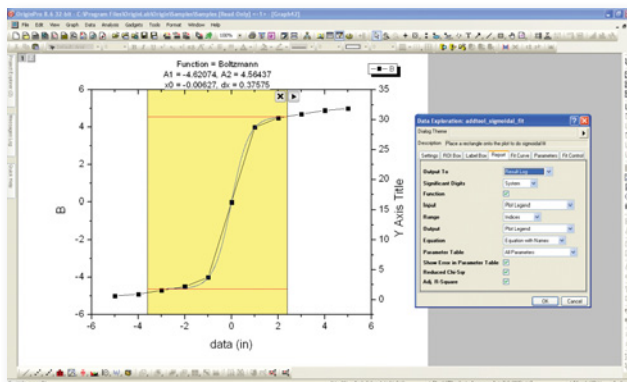

FIGURE 2: Region of interest in the Quick Sigmoidal Fit Gadget.
Gadgets in Origin are tools that perform quick analyses on regions of interest (ROI) within a graph, as shown by the yellow rectangle in Figure 2. Gadgets, introduced in OriginPro v8.5, are transient selections, using a rectangle, circle or ellipse on an existing graph, that report back information. The results calculated within a Gadget are updated dynamically as the ROI is dragged within a graph. Version 8.6 added three new Gadgets:
- The **Quick Sigmoidal Fit Gadget** will parameterize a dataset to a true sigmoidal function, with numerous user-definable options based on the data source and end goals. This Gadget is shown in Figure 2.